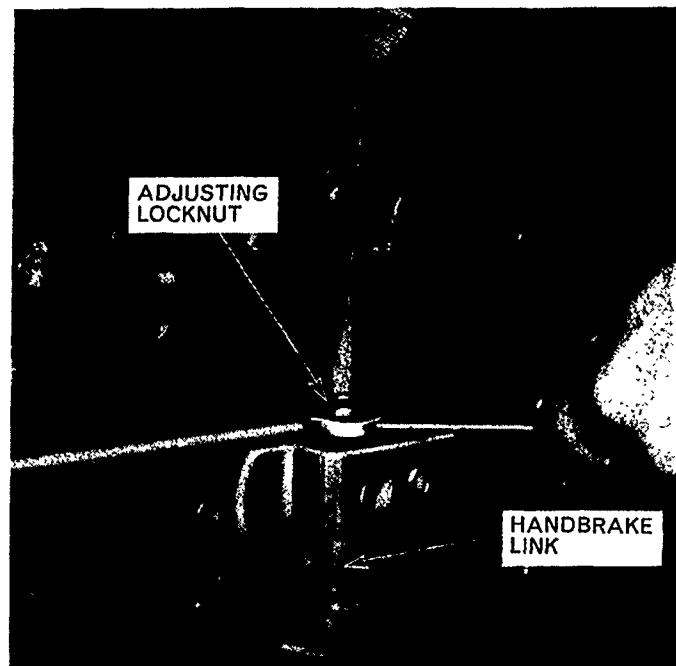

Figure 4
2. Using a screwdriver to prevent the operating rod from turning, Figure 4, rotate the locknut in a clockwise direction until the brake becomes solid.